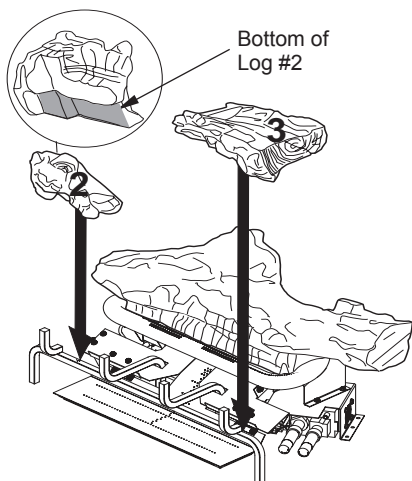

**Figure 28 - Installing Log #1**
It is very important to install these logs exactly as instructed. Do not modify logs. Only use logs supplied with heater or as identified for use with the heater as shown in Figure 28.
1. Place rear log (#1) on base assembly as shown in Figure 28. Log will fit over right end of burner and rest in middle of U-burner.